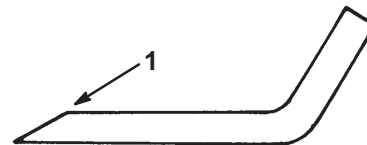

Figure 30
1. Use a file to sharpen the cutting edge at both ends of the blade (Fig. 30).